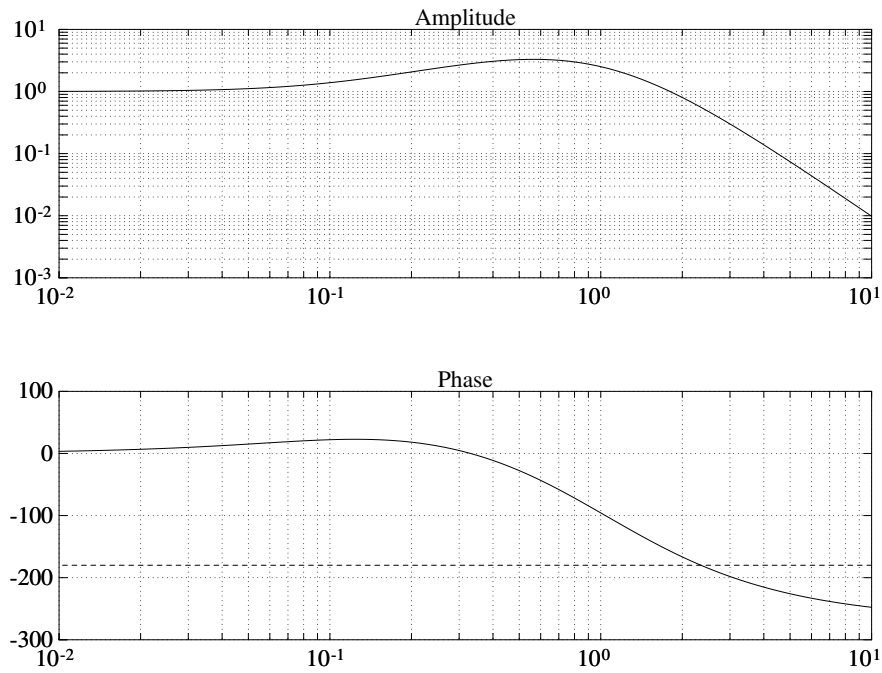
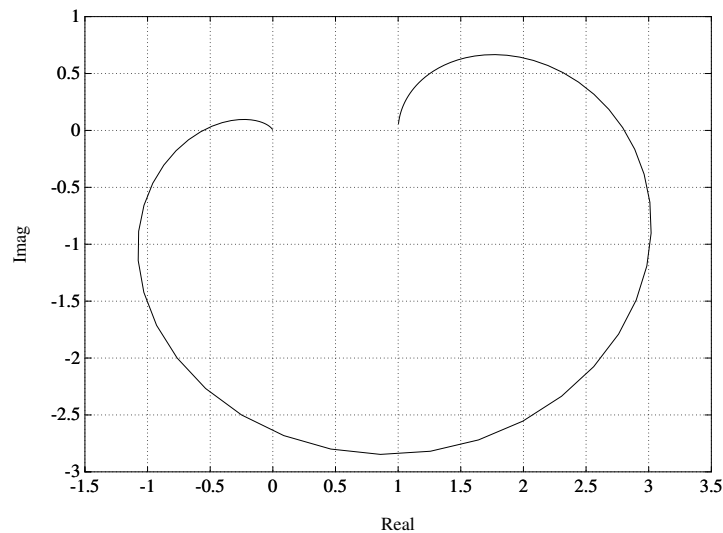

Figure 9.3 Bode plot in Problem 9.4.
Figure 9.4 Nyquist plot in Problem 9.4.
9.4 The Bode plot and the Nyquist plot of a linear system are shown in Figure 9.3 and Figure 9.4.